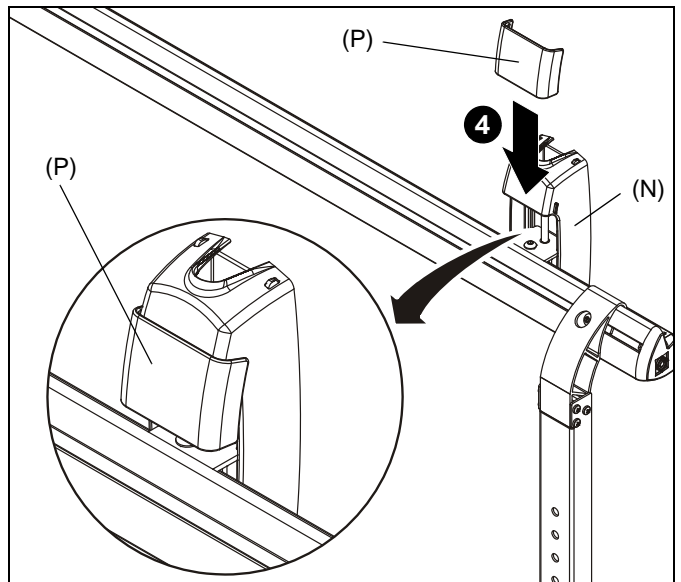

Figure 19
4. Slide the sliding cover (P) down over the wall bracket cover (N). (See Figure 19)